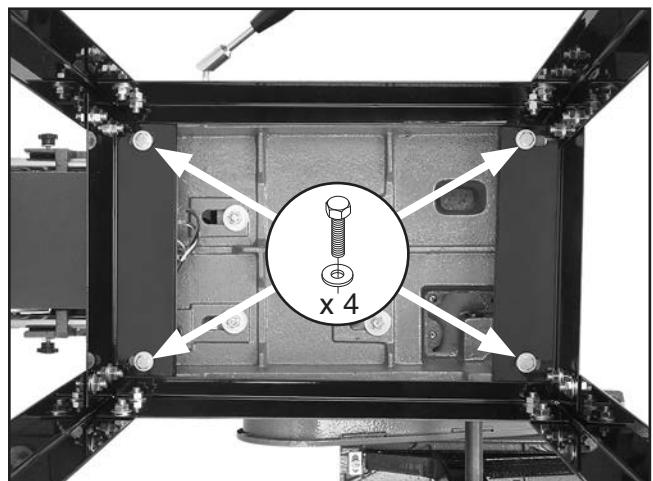

Figure 21. G1014Z sander fastened to stand (view from underneath stand).
2. Secure the sanding unit to the stand or cabinet with the (4) $\frac{5}{16}$ "-18 hex bolts and $\frac{5}{16}$ " flat washers, as shown in **Figures 21 & 22**.